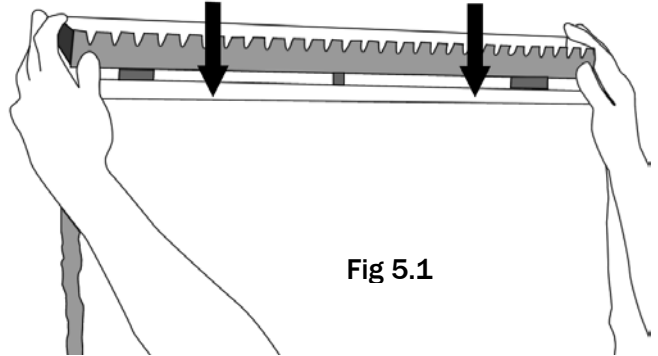

Fig 5.1
1. Gently lift the disperser (E) from behind the Pocket Clips (M) and remove each Pocket Clip out of the Wall bracket pocket (B). Slide the tabs on the disperser (E) behind the stone and into the bracket pockets on the wall bracket (B) (Fig 5.1). The disperser (E) should sit evenly along the angle on the stone edge. Press the disperser (E) down firmly to ensure there are no gaps between it and the stone. Center the Disperser (E) from left to right on the stone. You may want to keep the Pocket Clips should you need to install your fountain in a new location.